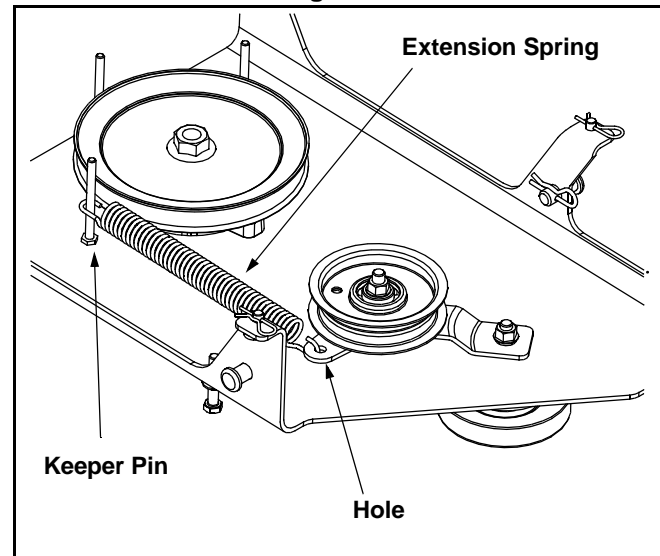

Figure 6
- Attach one end of the extension spring (732-0594A) to the hole in the idler assembly just mounted and the opposite end of the extension spring to the keeper pin as illustrated in Figure 6.